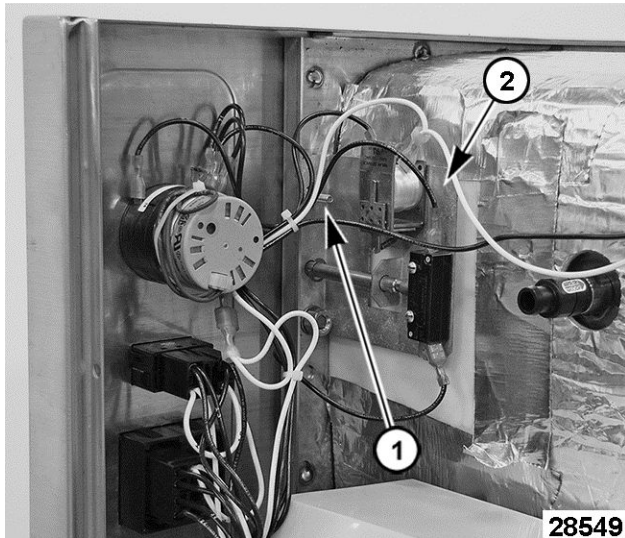

Fig. 28
5. Remove mounting nut [1] Fig. 28 securing the top of door switch assembly [2] Fig. 28 to compartment front panel.